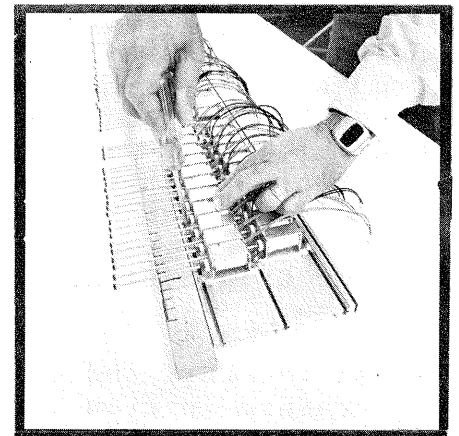

FIGURE 5-3 Align the solenoid plungers with the marks on the ruler.
Place the Solenoid Rail on a table or work bench with the Solenoid plungers facing away from you. See FIGURE 5-3.
Locate the Solenoid Alignment Ruler (48" x 1" x 1/4") and place it against the back of the Solenoid Rail under the plungers with the end labelled "5" to the LEFT. See FIGURE 5-3.
Starting from the LEFT end of the rail, loosen the two (2) screws holding the first solenoid to the rail, then slide the solenoid over until the plunger is aligned directly over the first mark on the ruler (labelled "5"). Make sure that the solenoid is perpendicular to the back edge of the rail. Tighten the two holding screws, then repeat this procedure with the next Key Solenoid at the next mark on the Solenoid Alignment Ruler. See FIGURE 5-3.